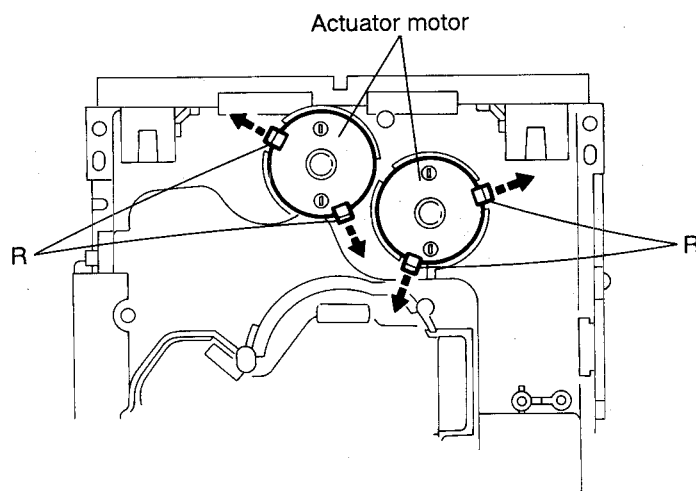

Fig. 5-35
5. After turning over the chassis assembly, remove the actuator motor while spreading the four pawls (R) fixing the right and left actuator motors in the arrow direction (See Fig. 5-35).